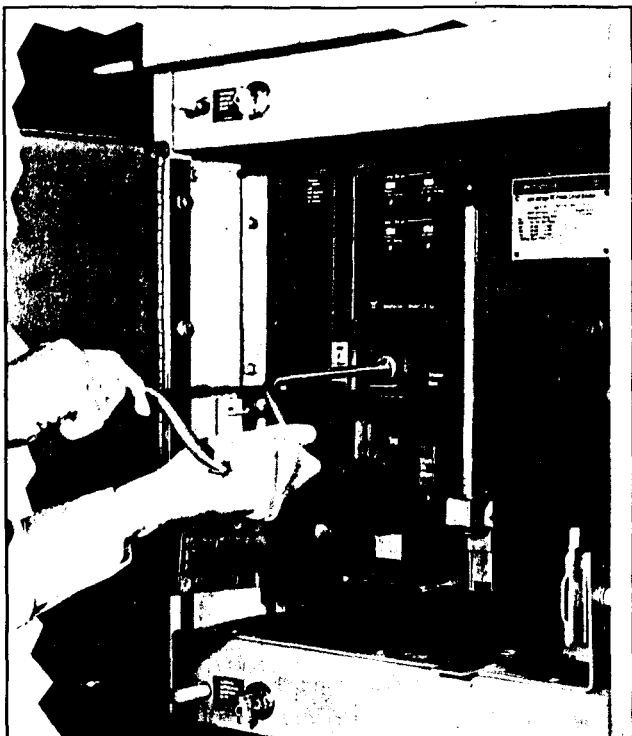
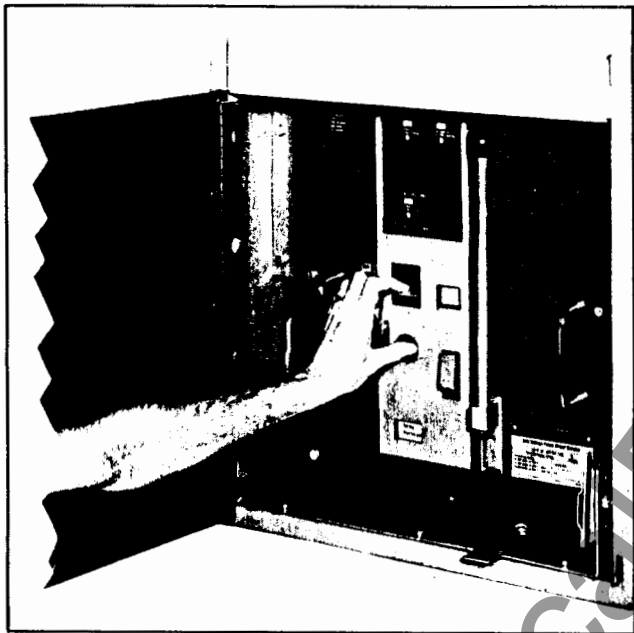

Fig. 3 Levering Device Crank Handle Installed. Read Section 2.2 on this Operation (391177)
Fig. 9 *Method Used to Press Trip Plate and Lower Shutter with One Hand, Preparatory to Inserting Crank (383028)*
1. With a screwdriver, remove the two (2) outside .25-20 panhead screws with captive washers from the bottom leg of the two angles. Do not discard, as later they will be returned to their tapped holes. Do not remove the center screw from the bottom cradle.
2. The levering device is now used to release the breaker from the shipping position. When the breaker is part way between DISCONNECT and TEST positions as described above the breaker levering device interlock will hold the shutter down and the trip plate depressed. The hex shaft of the levering device will be exposed and ready to receive the levering crank handle. See Figure 3. Insert the crank
If the circuit breaker was shipped in a separate package, the levering device was probably left in the REMOVE position. If not it will be necessary to return it to this position. Push in the TRIP plate and depress the shutter over the levering shaft, using one hand, as shown in Figure 9, and insert the levering crank as shown in Figure 3. Turn the crank counterclockwise until the position indicator is in the REMOVE position, at which time the load on the crank handle increases because a stop has been reached. Now rotate the crank clockwise to simulate levering the breaker inward toward the CONNECT POSITION. Watch the movement of the levering device arms. At the start of cranking the arms are horizontal, with rollers toward the rear, Figure 6. As the crank is